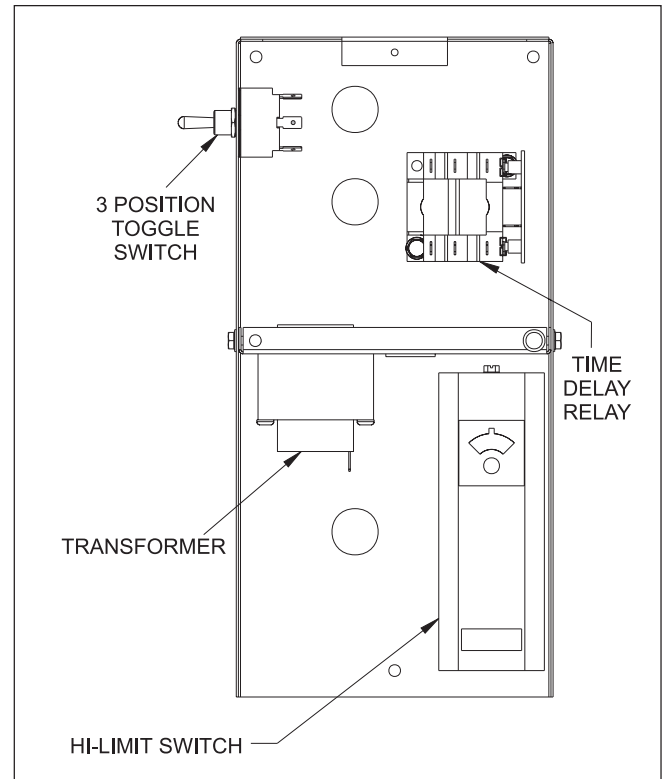
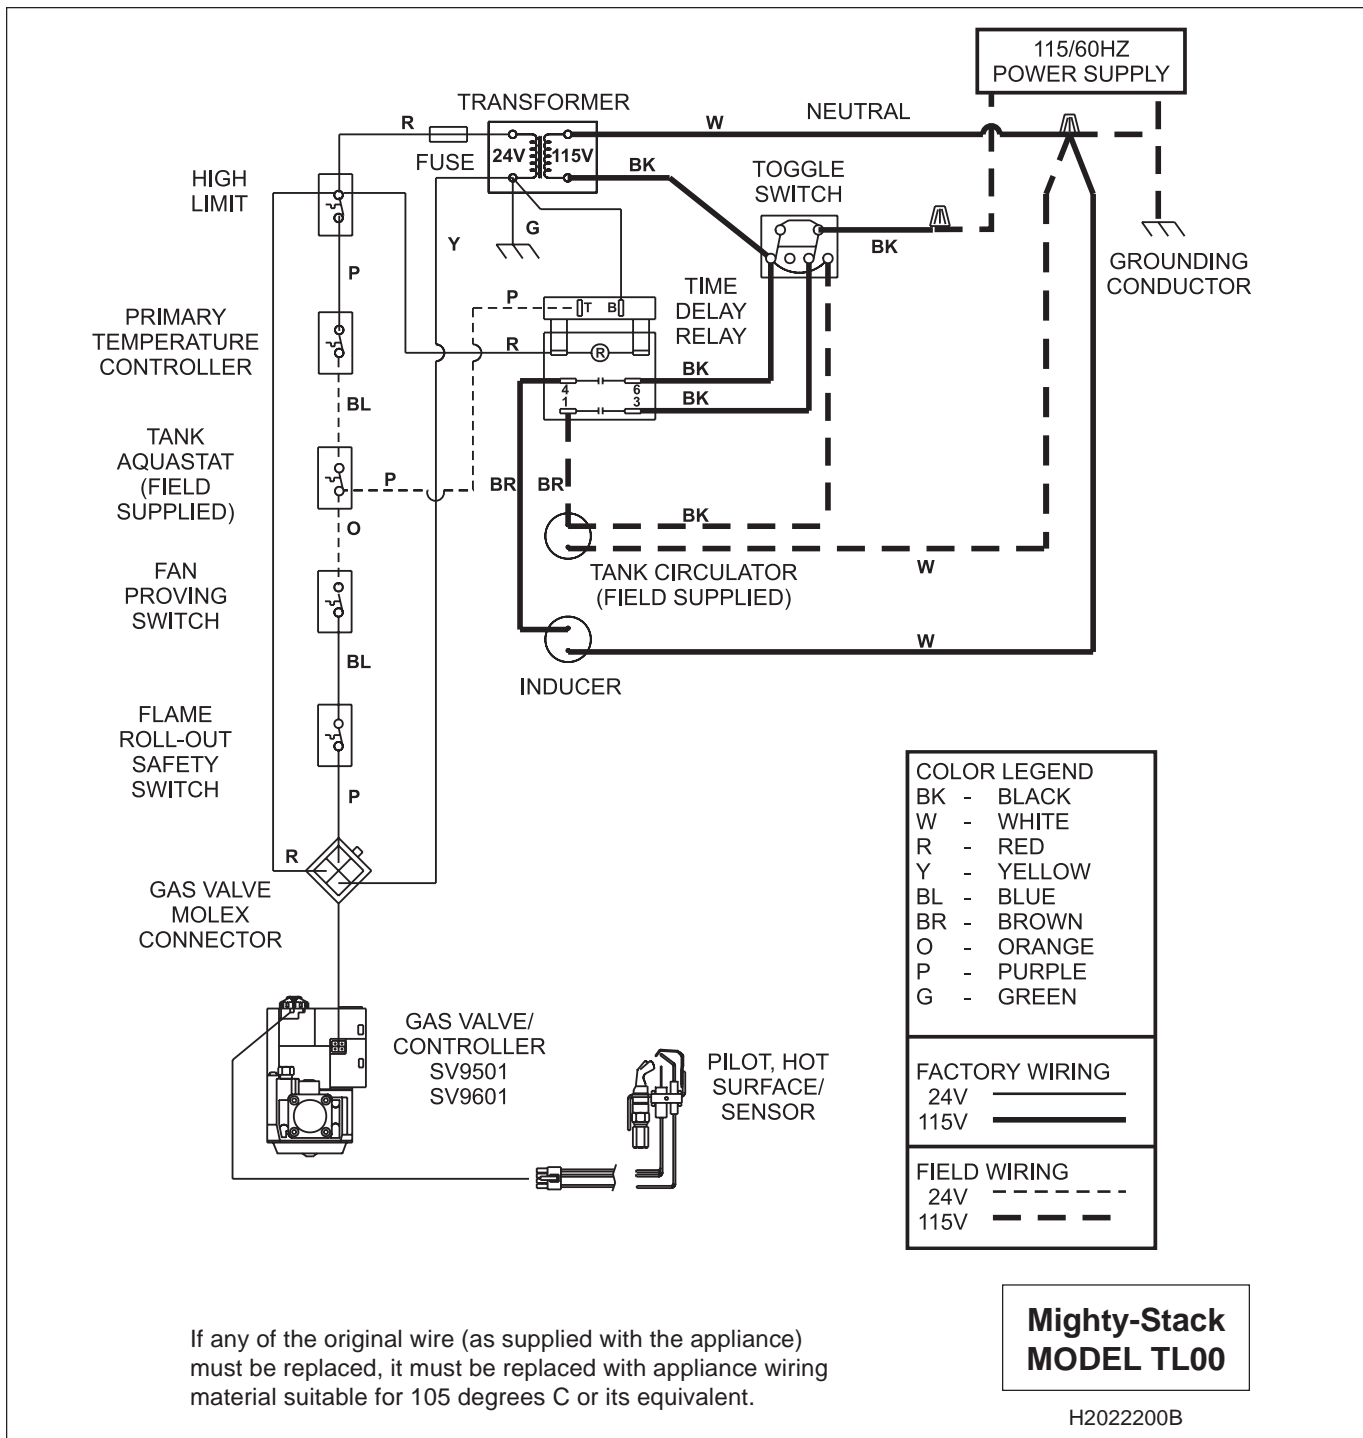

Figure 11. Location of Parts in Control Box.
Figure 12. Connection Diagram.
5. There are two sets of wires near the top of the control box (see Figure 11). These wires are for connection to the 115V AC lines. Connect the hot lead from the 115V power supply to the black wire. Connect the three white wires to the neutral side of the 115V line (see Figure 12).